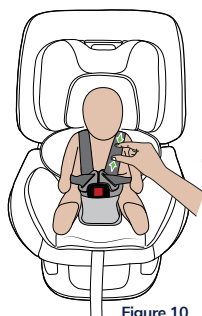

Figure 10
Step 3. Pinch the straps near the top of the shoulder to check for correct fitment. This is achieved when you are unable to pinch the harness (Figure 10). If you can pinch the harness, tighten more.